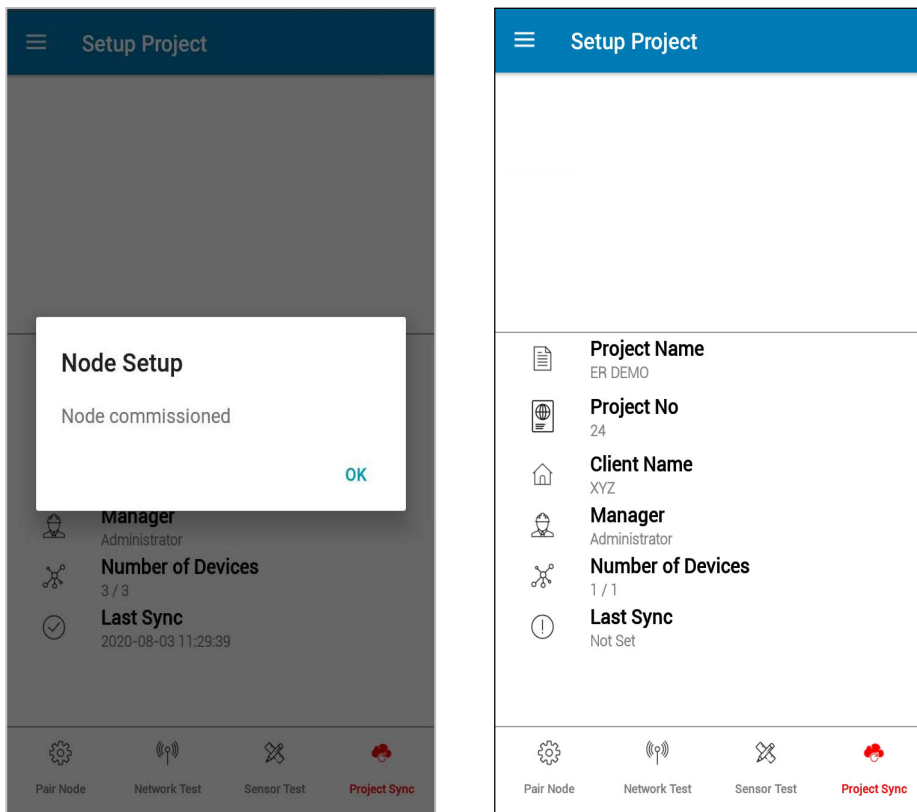

Figure 5-14
- 5. The app will prompt, "Node commissioned" as shown in left side screenshot in the figure 5-14. Click OK.
6. Press the 'Project Sync' button at lower right of screen (shown in the right side in figure 5-14) to send all the configuration information back to the gateway.